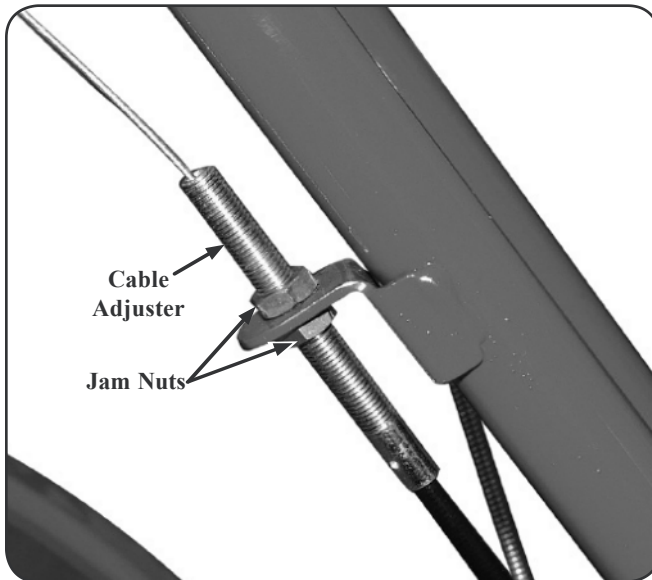

Figure 3-8
3. Attach the cable adjuster to the bracket on the right-side handlebar. See Fig. 3-8. Use the two 1/2" wrenches to loosen the two jam nuts just enough to slide the cable adjuster onto the bracket. Then hand tighten the jam nuts.